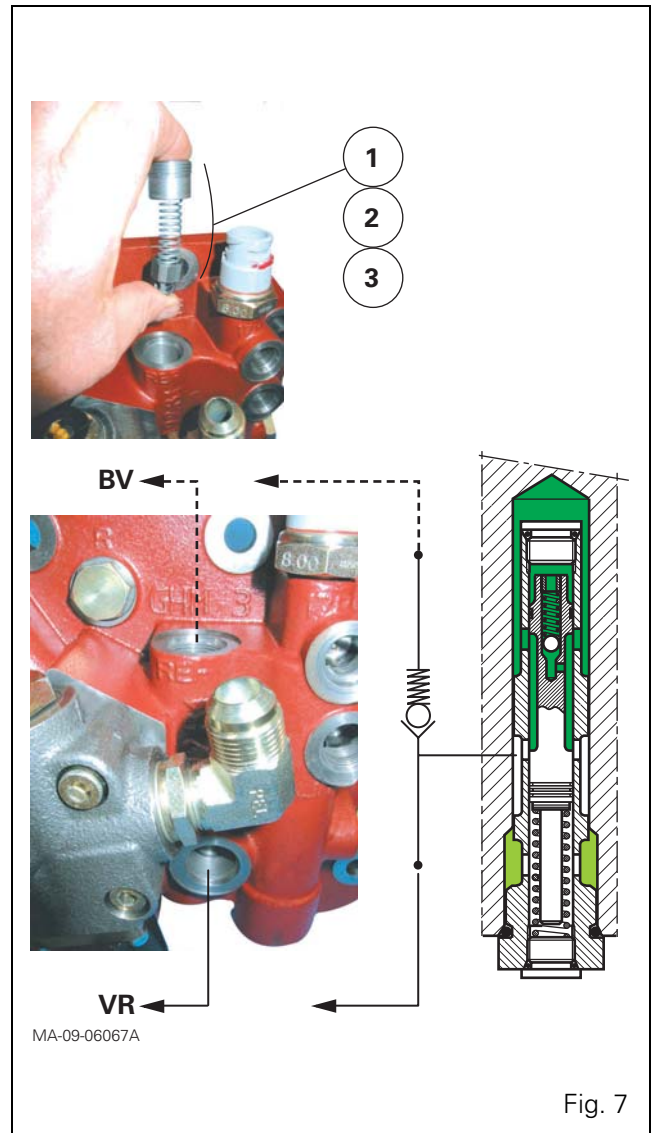

Fig. 7
The pressure acting on the back of the spool (7) pushes it towards the bottom of the valve, pressing in the spring (9) (Fig. 4). It then allows oil to pass to port VR (Fig. 7) and the cooler. When it leaves the cooler, the oil is directed to the transmission lubricating system via the 1.5 bar valve.
When the oil is cold, the 5 bar valve (1) (2) (3) (Fig. 7) opens partially. It then allows some oil to pass directly to port BV of the left-hand cover (Fig. 7), and to supply the transmission lubricating system, without really entering the cooler.